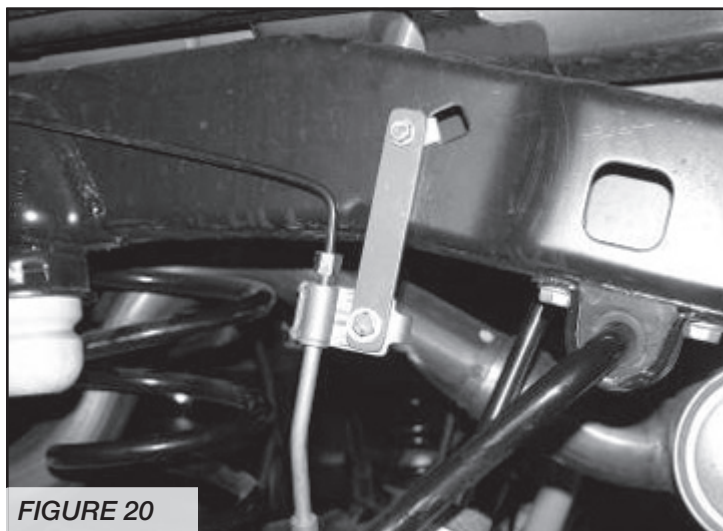

FIGURE 20
23. Locate FT50295 Rear Brake Line Drop Bracket, supplied 1/4" hardware, and factory rear brake line hardware. Attach the drop bracket to the factory mount with the factory hardware. Attach the factory brake line bracket to the new drop bracket with the 1/4" hardware. Torque to 10 ft-lbs. SEE FIGURE 20